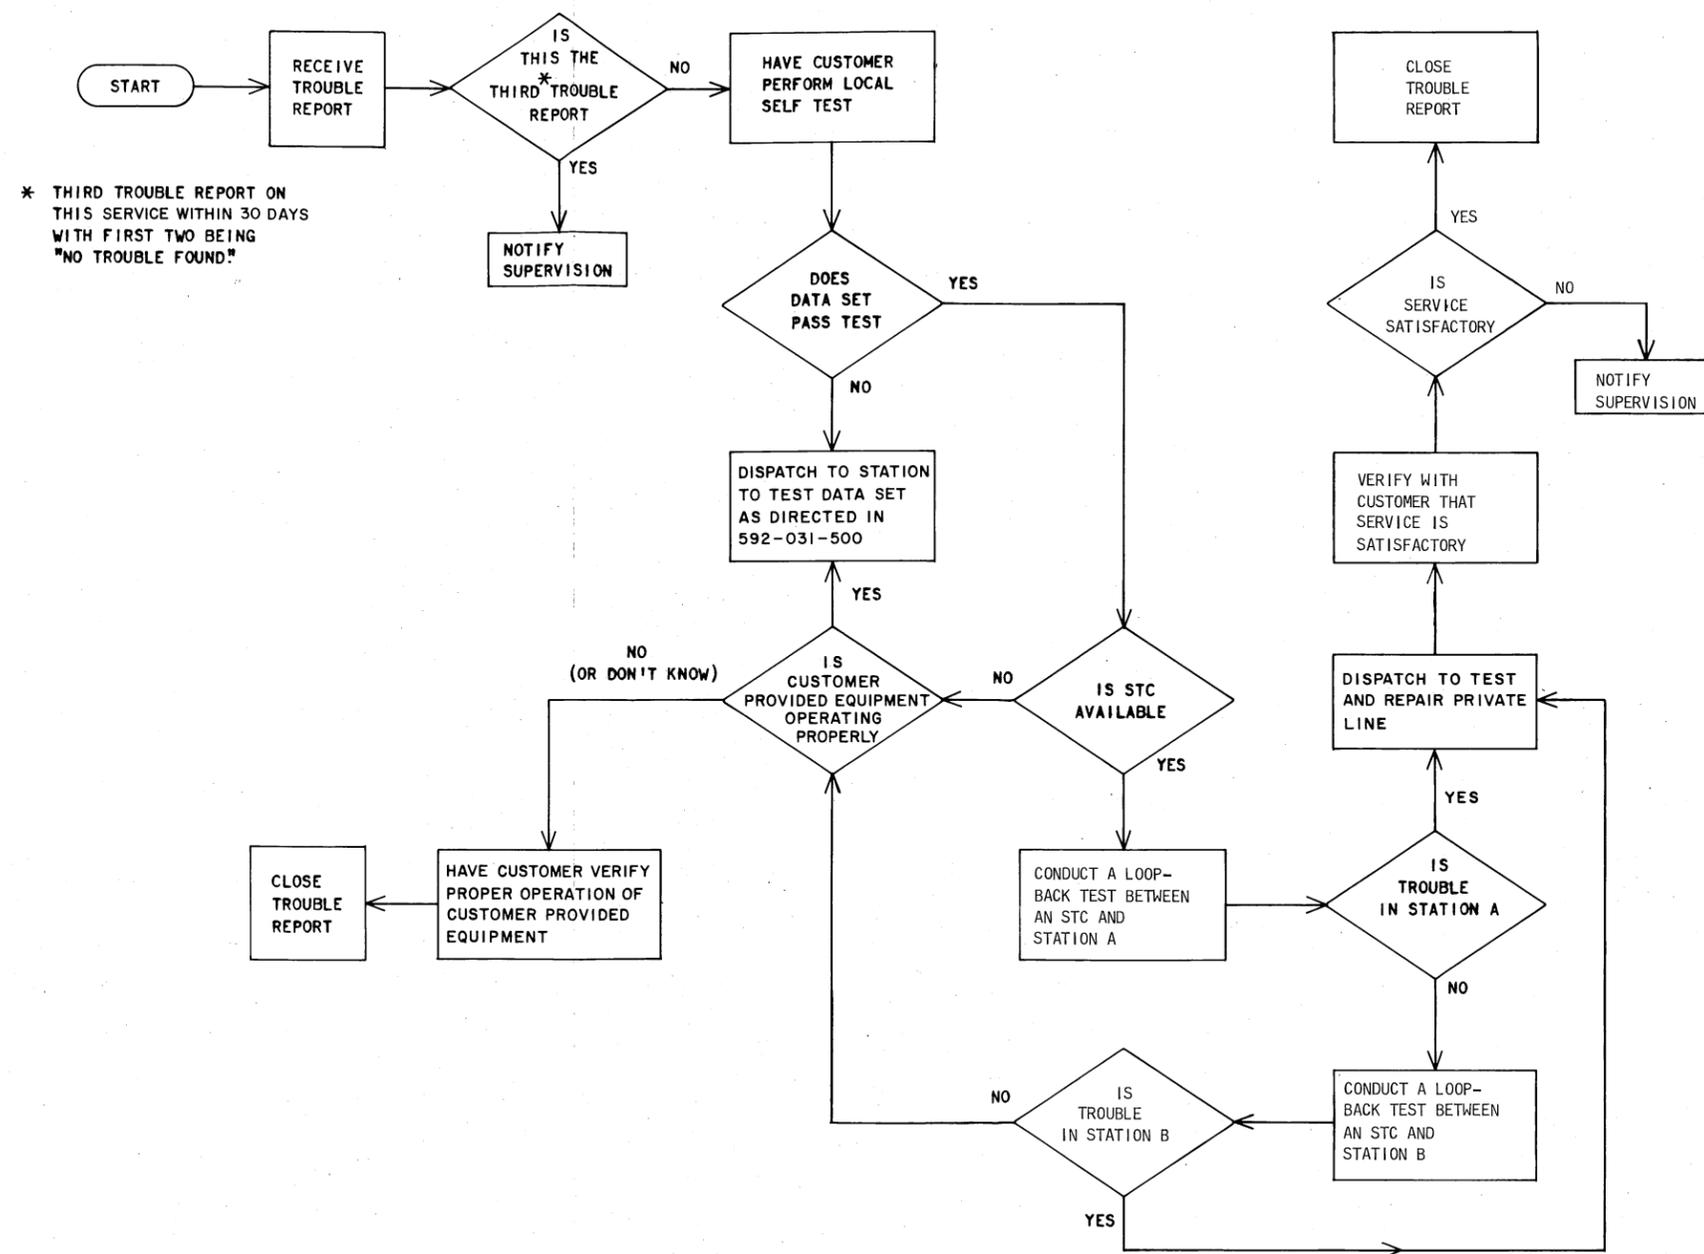
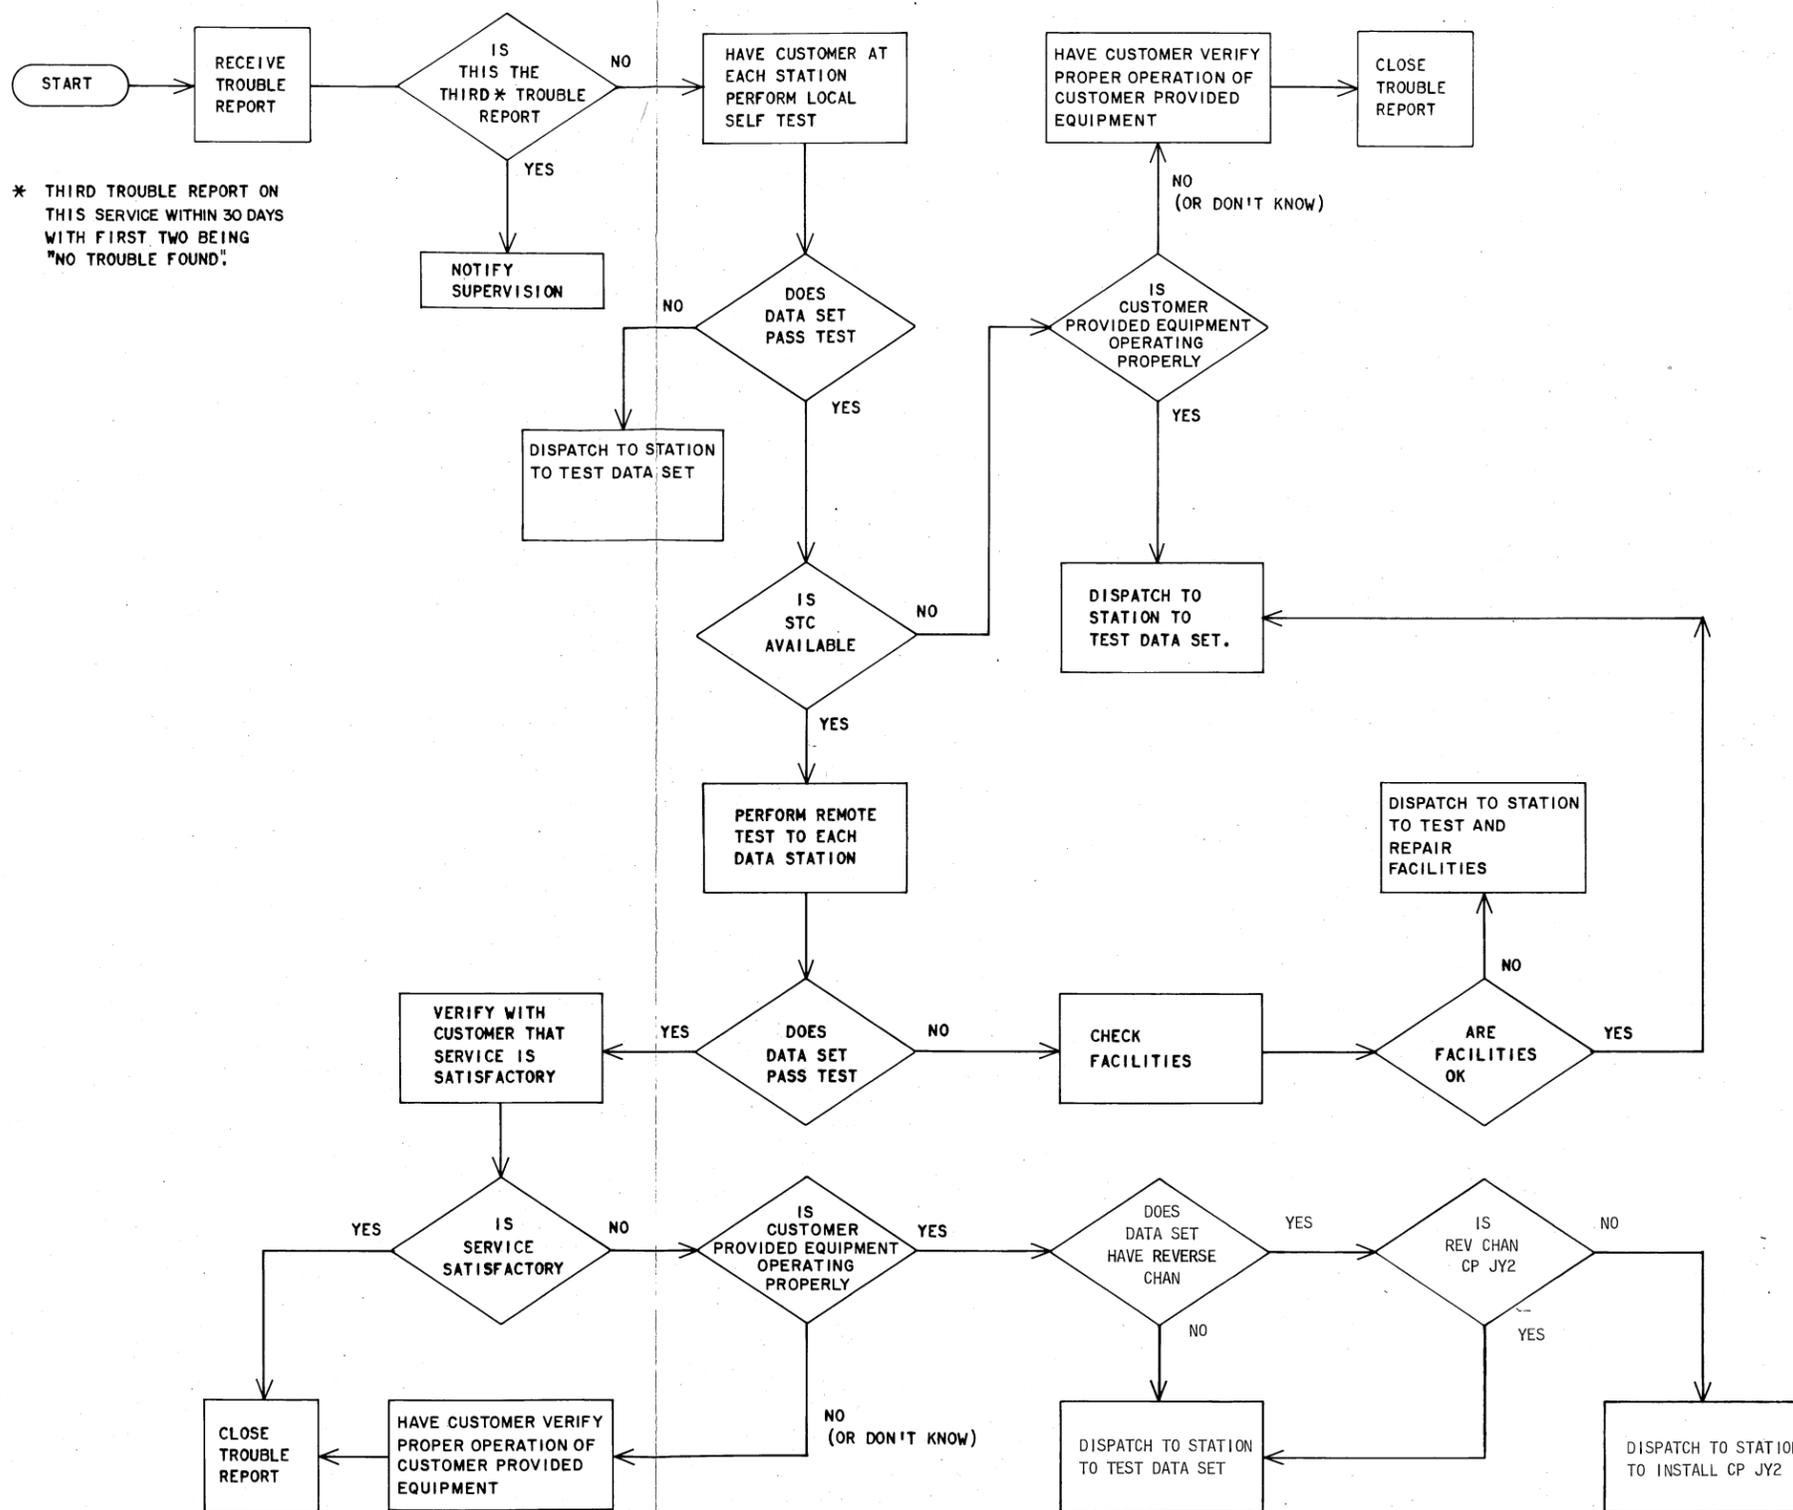

Fig. 1—Maintenance Flowchart for 4-Wire Private Line
Fig. 2—Maintenance Flowchart for 2-Wire Private Line
2.01 When investigating a trouble report, proceed as directed in Fig. 1 (2-wire) or Fig. 2 (4-wire). Refer to Section 592-031-500 for maintenance test procedures for DS 202T.